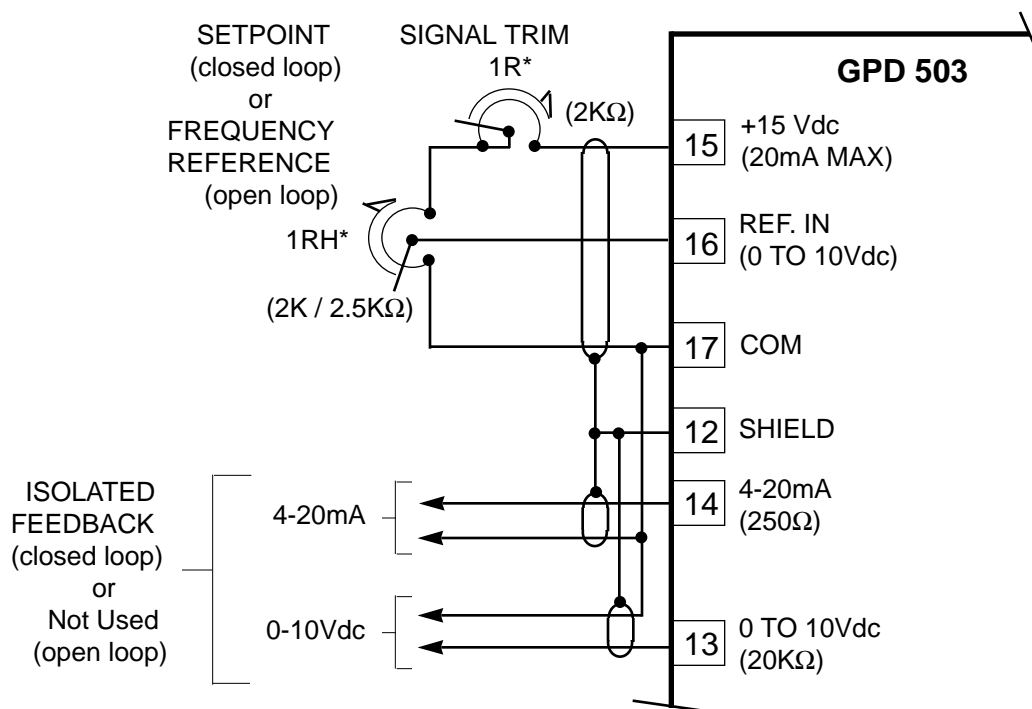

Figure 5. Setpoint (Reference) and Feedback Signal Connections
5. Connect feedback and external setpoint (if used) signals. If the AI-14B card is not used (see Figure 5), the feedback signal will be at terminal 13 (0-10 Vdc) or terminal 14 (4-20 mA dc), with terminal 17 being common for both. If the AI-14B option card is used, it will be the connection point for the feedback signal (see Figures 2 and 3 and separate instruction sheet 02Y00025-0296).